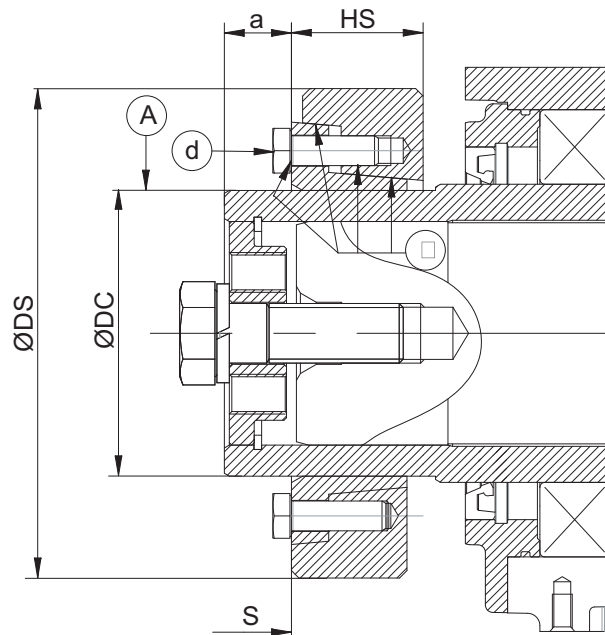

Fig. 10
- Lubricate the coupling housing (Fig. 10 (p. 23) balloon A).
- When servicing the coupling, disassemble it and grease the zones marked "C" (see Fig. 10 (p. 23)).
- Fit the coupling in its seat on the gear unit shaft without tightening the bolts, positioning it as shown in "a" (see Fig. 10 (p. 23)).
- When the coupling has been correctly fitted, visually inspect the assembly to make sure that the front surfaces of the inner and outer rings are on the same plane (see Fig. 10 (p. 23) pto. S).